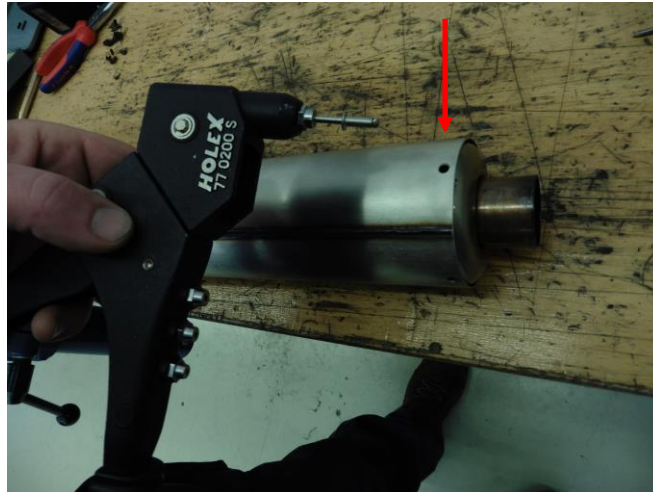

Fig.5: Riveting of steel tube
- 12 Install the steel tube. Make sure that the rivets holes of muffler tube and the steel tube are perfectly lined up (Fig.5).
- 13 Insert the four rivets into the hole and install them with a rivet gun (Fig.5).